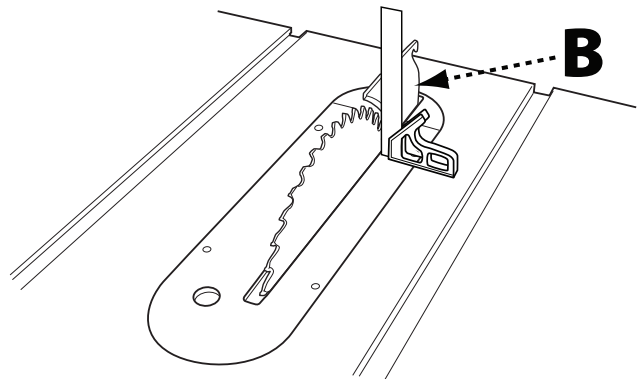

FIGURE 17b
3. Using a carpenter's square, check the angle of the blade face to the table, as shown in Figure 17b, page 18. If the blade is at 90° to the table, proceed to Step 6.
4. If the blade is not perpendicular to the table, turn handwheel to slightly tilt the blade away from the stop position then adjust the 90° stop by rotating the socket set screw located in the table top immediately in front of the left side of throat plate (A). Re-check angle using the carpenter's square and continue to adjust until the blade is at 90 degrees when returned to the stop position.
5. Rotate the blade tilt wheel counterclockwise until it rests on the 45° stop. Then repeat Steps 4 and 5, adjusting the 45° stop by rotating the socket set screw located in front of the right side of the throat plate. (B)
1. **Vertical Alignment:** Place a carpenter's square on the table and against the blade face and make sure it extends up along the riving knife (B) as shown in figure 17b. The riving knife and blade should touch the carpenter's square with no gaps. Be sure the straight edge goes between the teeth and rests on the blade face and the riving knife for proper alignment.